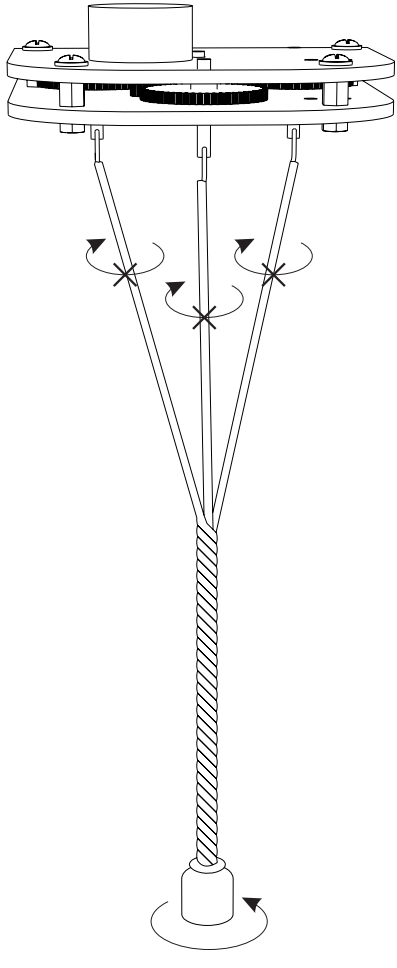

Figure 7.
8. After a while, when the load (3) has ascended to 10–15 % of source threads' (2) length, stop the motor by pressing remote button once again, release the load (3), and let it rotate freely about axis, thus winding source threads (2) around each other (fig. 7).